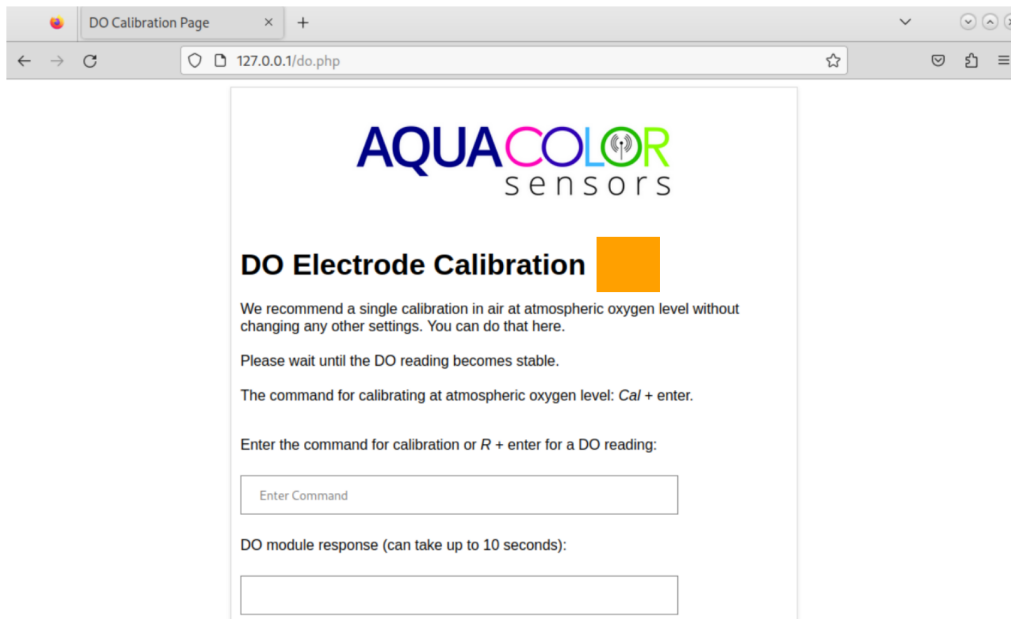

Figure 9: Calibration interface for the DO sensor module, including command input and response lines.
Clicking on *Calibrate DO Sensor* in the Lab Control Panel opens the calibration interface for the dissolved oxygen (DO) sensor, see also figure 9. This screen allows the user to perform either a zero-point or atmospheric calibration using appropriate reference solutions.